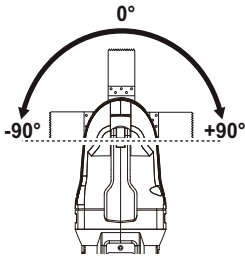

Fig. 7
WARNING! Only adjust the scraper (12) and plunge saw blade (8 or 10) at the angle within range of -90° - $+90^{\circ}$. Never adjust the scraper and plunge saw blade pointing backward (Fig. 7, 8). Never adjust the segment saw blade (9) at any angles other than 0° (Fig. 9).